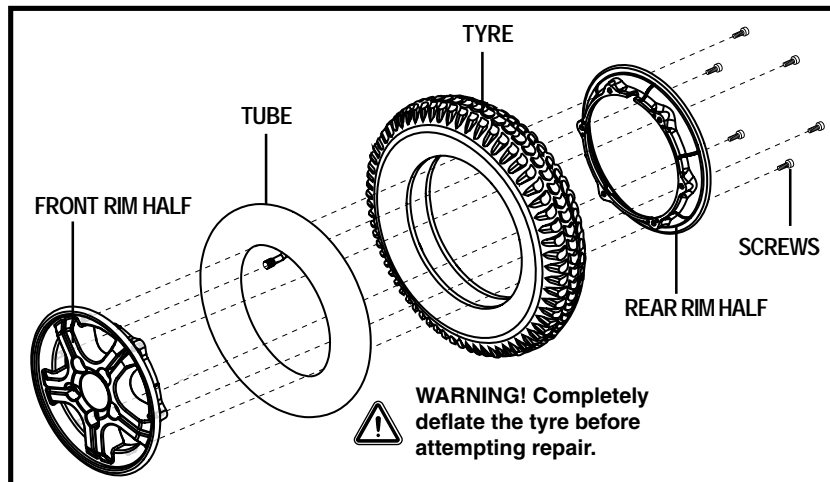

Figure 23. Drive Wheel Disassembled
6. Remove the screws and separate the front and rear rim. See figure 23.
8. Screw together the two (2) rim halves.
10. Reinstall the five (5) lug nuts onto the wheel hub and tighten.